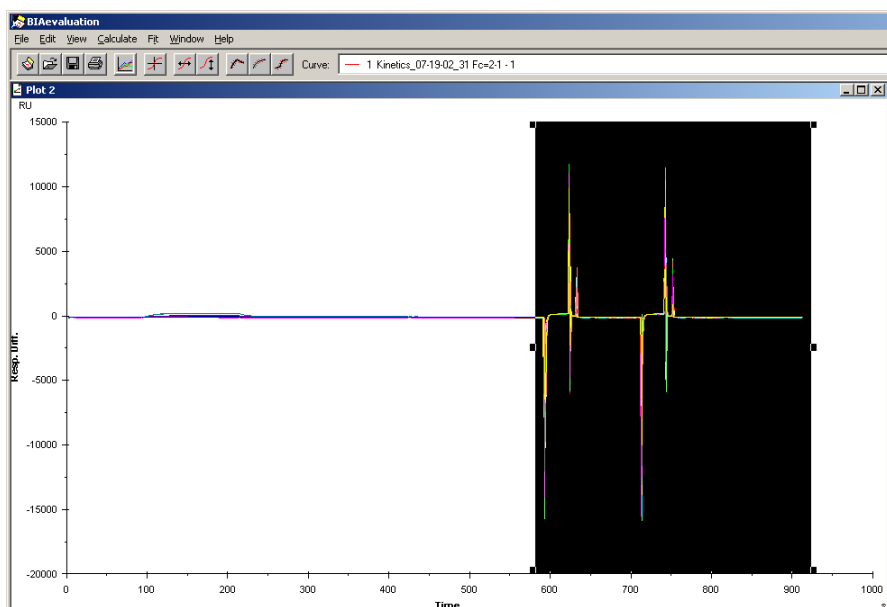

Figure 6.4
- 6.11 Holding down the right mouse button select the region (regeneration) shown in Fig 6.4